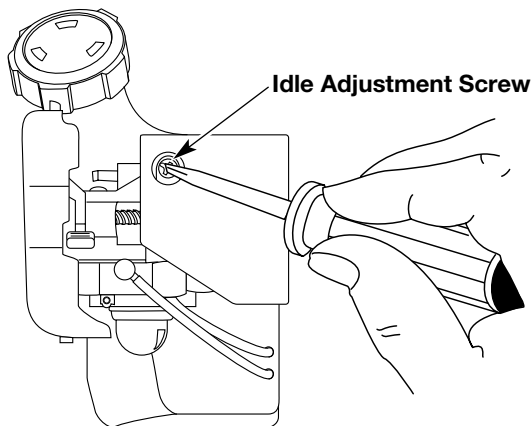

Fig. 48
The idle speed of the engine is adjustable. An idle adjustment screw is reached through a hole in the top of the engine cover (Fig 48).
2. Release the throttle trigger and let the engine idle. If the engine stops, insert a small phillips or flat blade screwdriver into the hole in the engine cover (Fig. 48). Turn the idle speed screw in, clockwise, 1/8 of a turn at a time (as needed) until the engine idles smoothly.